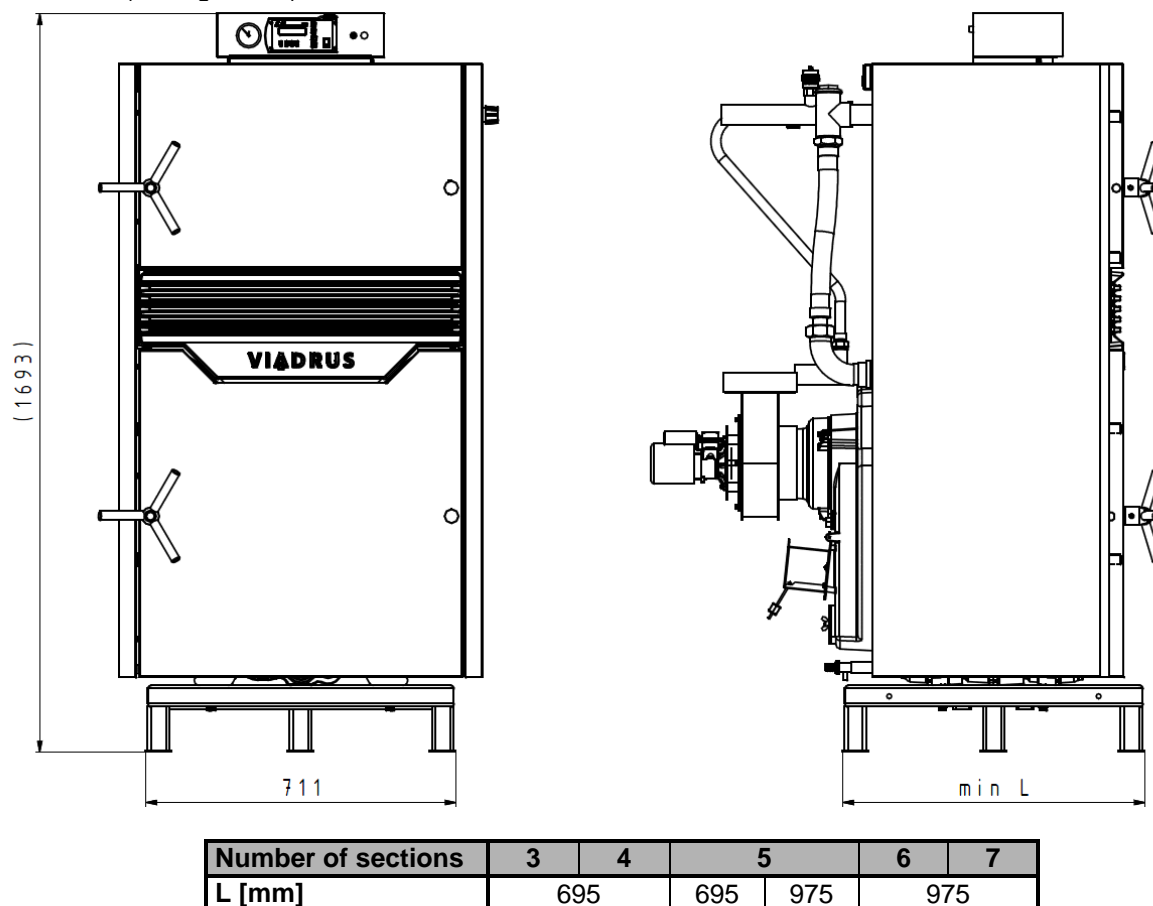

Fig. No. 6 Socle dimensions
- The boiler must be installed on a fireproof bottom, which exceeds the boiler platform by 20 mm on the sides (see fig. No. 6).